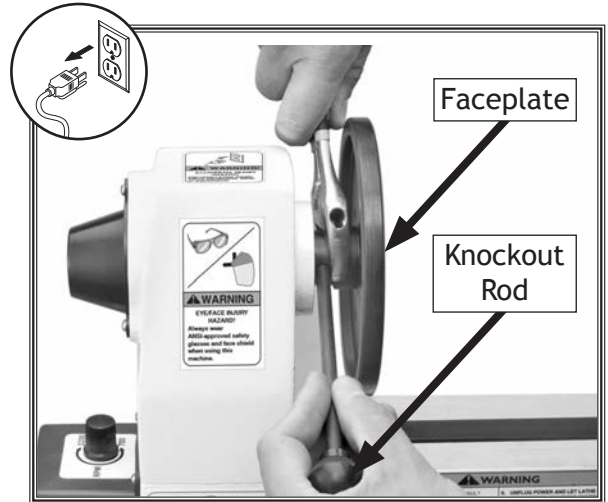

Figure 24. Attaching faceplate to headstock spindle.
3. Insert knockout rod into one hole on spindle, then tighten faceplate with open-end wrench (see **Figure 24**).
2. Put open end of wrench over flats behind faceplate. While holding spindle in place with knockout rod, turn wrench counterclockwise until faceplate is removed (see **Figure 24**).